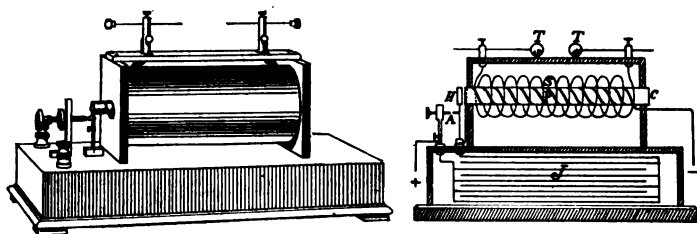

FIG. 263. — Induction coil.
**305. Induction coil.** In the induction coil (Fig. 263) the core *c* is made of soft iron wires; the primary coil *P* consists of a few turns of large copper wire, and the secondary coil *s*, which is carefully insulated from the primary, contains many turns of very small silk-covered copper wire. To make and break the primary current very rapidly, an interrupter *H* is commonly made to operate on the end of the coil. This
the induced e.m.f. So a condenser *J* is connected across the gap. It is usually made of sheets of tin foil, insulated by paraffin paper, arranged as shown in figure 263. This furnishes a storage place into which the current can surge when broken, and diminishes the sparking at the interrupter. Even with a condenser there is some sparking, and so the contact points have to be tipped with silver or platinum and frequently cleaned.